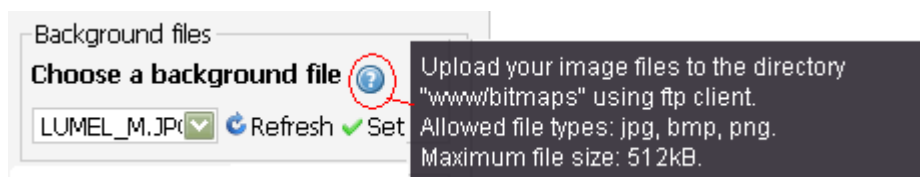

Fig. 49. Selection of files background
- a) Background files - the element presented on the fig. 49 allows for setting a background file of a map.
Positioning the mouse cursor on a question mark displays information on how to load your own background files (fig. 49). In order to load your own background file, send your image files using FTP client to "WWW/bitmaps" catalog. Servicing FTP client is presented in point 7. FTP Client.